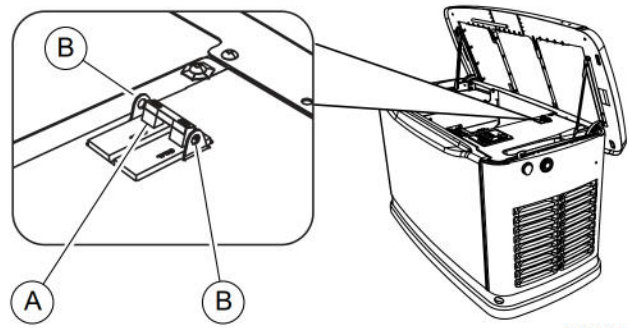

Figure 3-4. Main Line Circuit Breaker (MLCB)
See **Figure 3-4**. This is a 2-pole main line circuit breaker (MLCB) (generator disconnect) (A) rated according to relevant specifications.